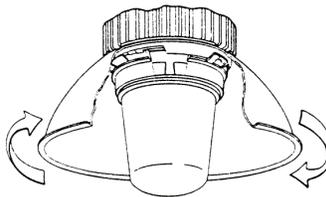

FIGURE 4
- Rotate reflector clockwise so that the three tabs slide under captivated bosses on adapter ring. See Figure 4.